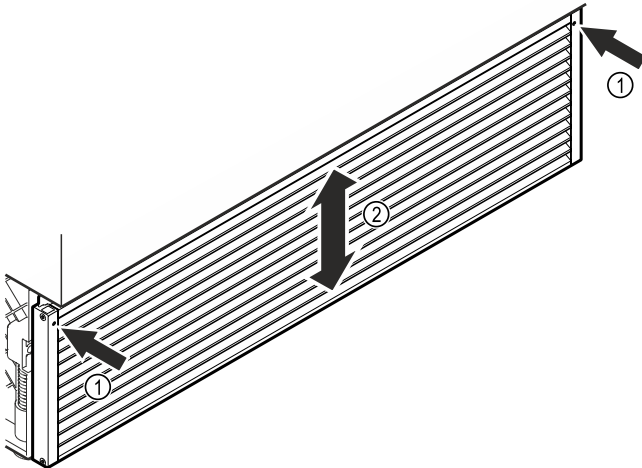

Fig. 25
- ▶ Loosen the threaded pins on the front of the ventilation grille. Fig. 25 (1)
- ▶ Adjust the ventilation grille at the desired height. Fig. 25 (2)